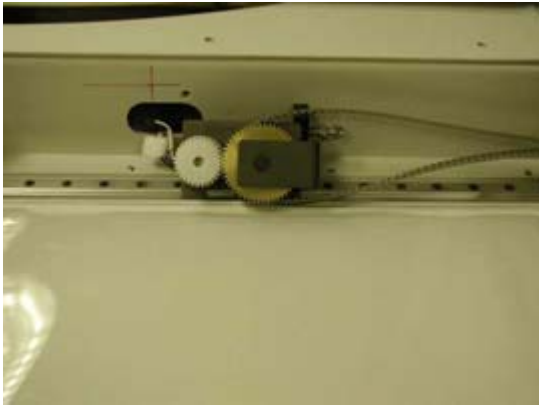

Fig. 90: Tensioning device (2)
- Remove the tensioning device to relieve the belt, see (Fig. 90 / p. 86).